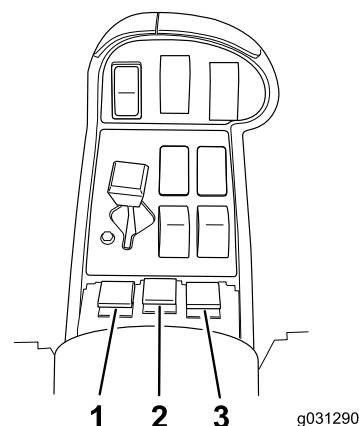

Figure 10
11. Turn the section switches (located between the seats) to the ON position (Figure 10).